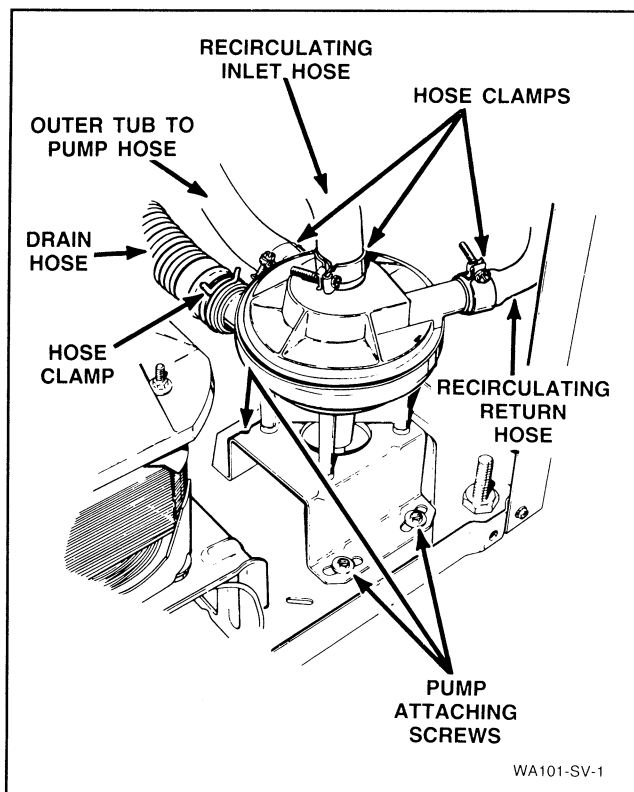

Figure 21
- Remove the two front mounting screws, Figure 21, and loosen the rear screw.
- Loosen hose clamps and remove all hoses from pump assembly, Figure 21.